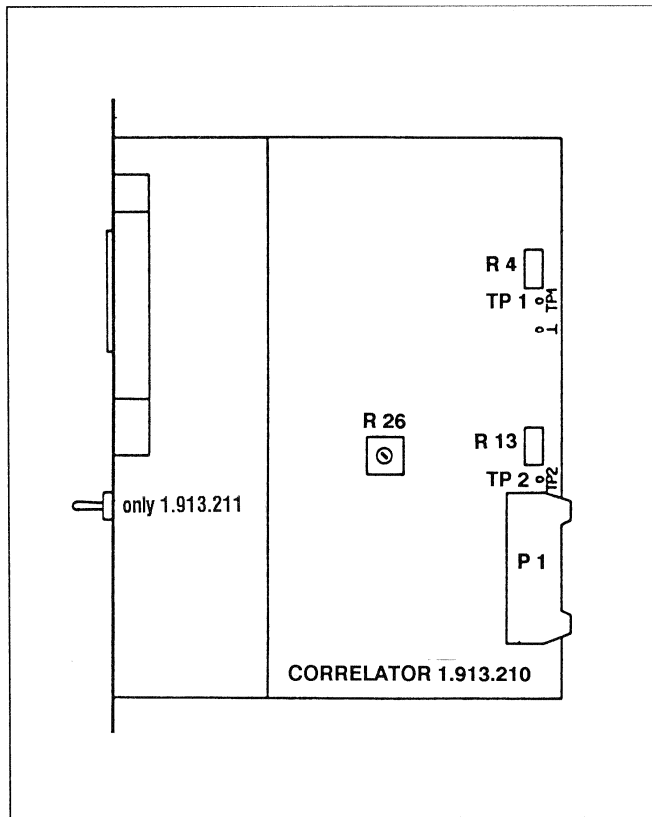

Fig. 5
- Adjust with R4 (Fig. 5) and R13 (Fig. 5) to -18 dBu or 100 mVAC measured at testpoint 1 (TP1, Fig. 5) and testpoint 2 (TP2, Fig. 5).
- Adjust with R26 (Fig. 5) to a meter indication of + 1.